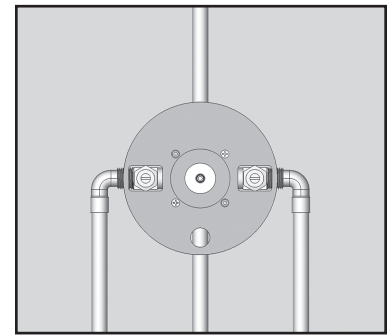

FIG. 3
1. Rough valve body into wall, connecting piping to 1/2" Female copper sockets or 1/2" Male I.P. nipples. (FIG. 3) **NOTE "UP AND DOWN" MARKINGS ON BACK OF VALVE.**